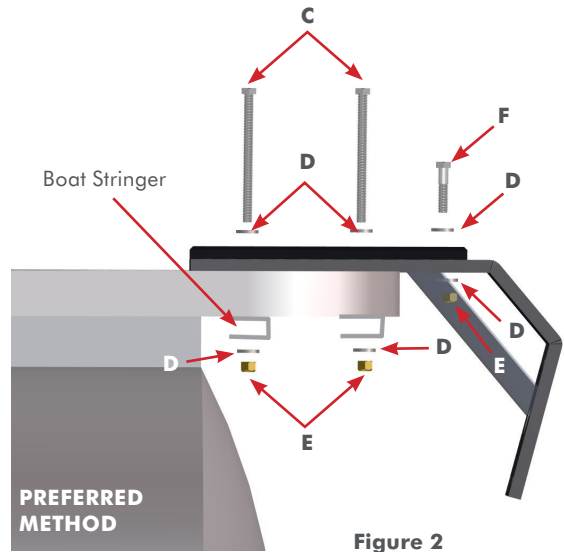
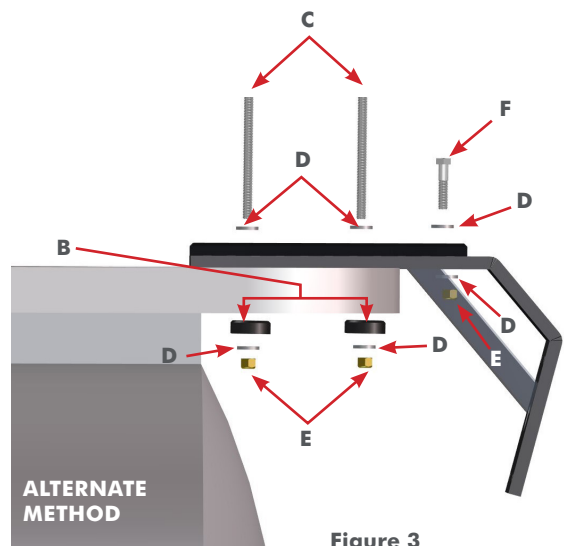

Figure 2
Figure 3
- 1.2 With the deck mount adapter plate (A) & deck mount scab (H) in position ensure the underside of the boat deck has adequate clearance for the 5" mounting bolts (C). **FIG. 2 or 3.**
NOTE: These holes should pass through a stringer as shown in the preferred method **FIG. 2** or have adequate space to install the Backer plates (**B**) as shown in the alternate method **FIG. 3**.
2.3 Install the hardware with upper deck mount scab (**H**) in place as illustrated for the Preferred method **FIG. 2** or the Alternate method **FIG. 3**.